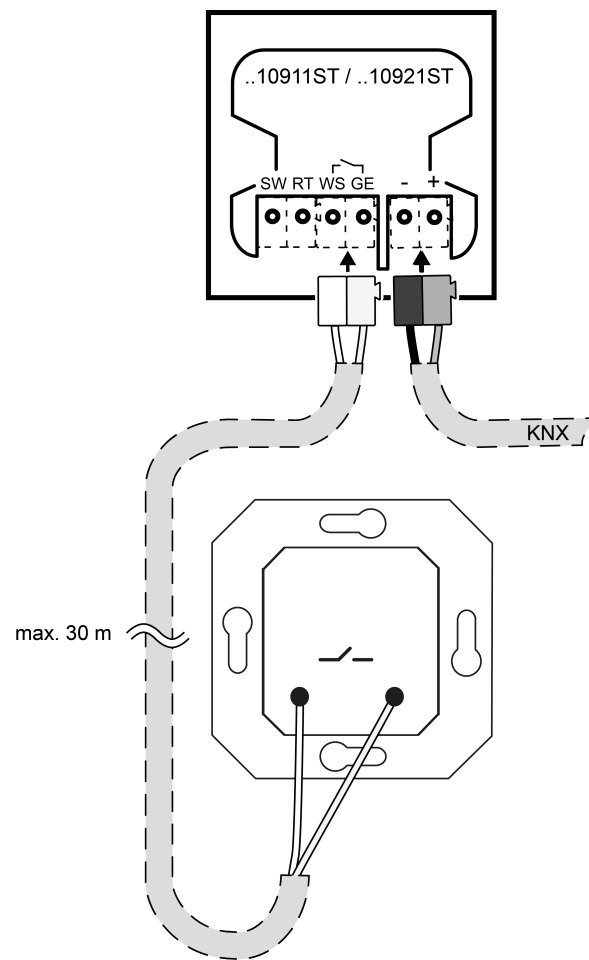

Figure 5: Connecting installation push-button
- Optional: Connect external switching contacts (e.g. push-button or reed contacts) to the connection terminal (see figure 5).
Connecting external switching contacts (see figure 5)